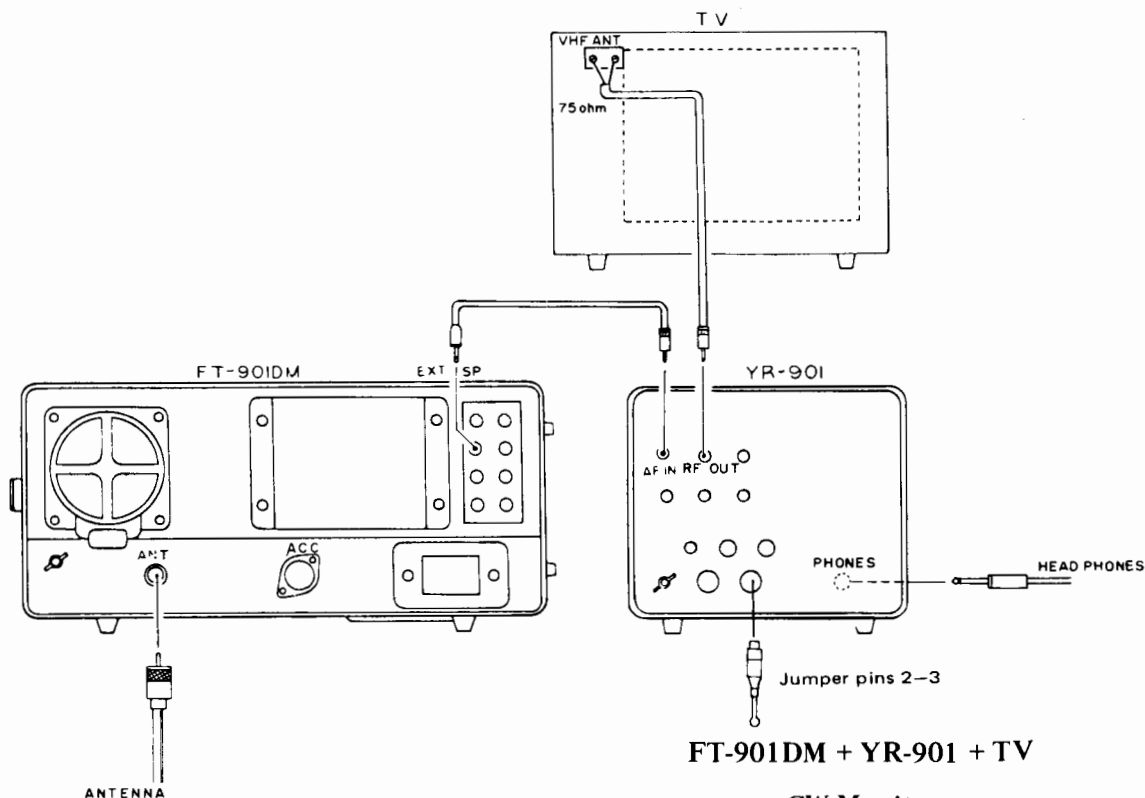
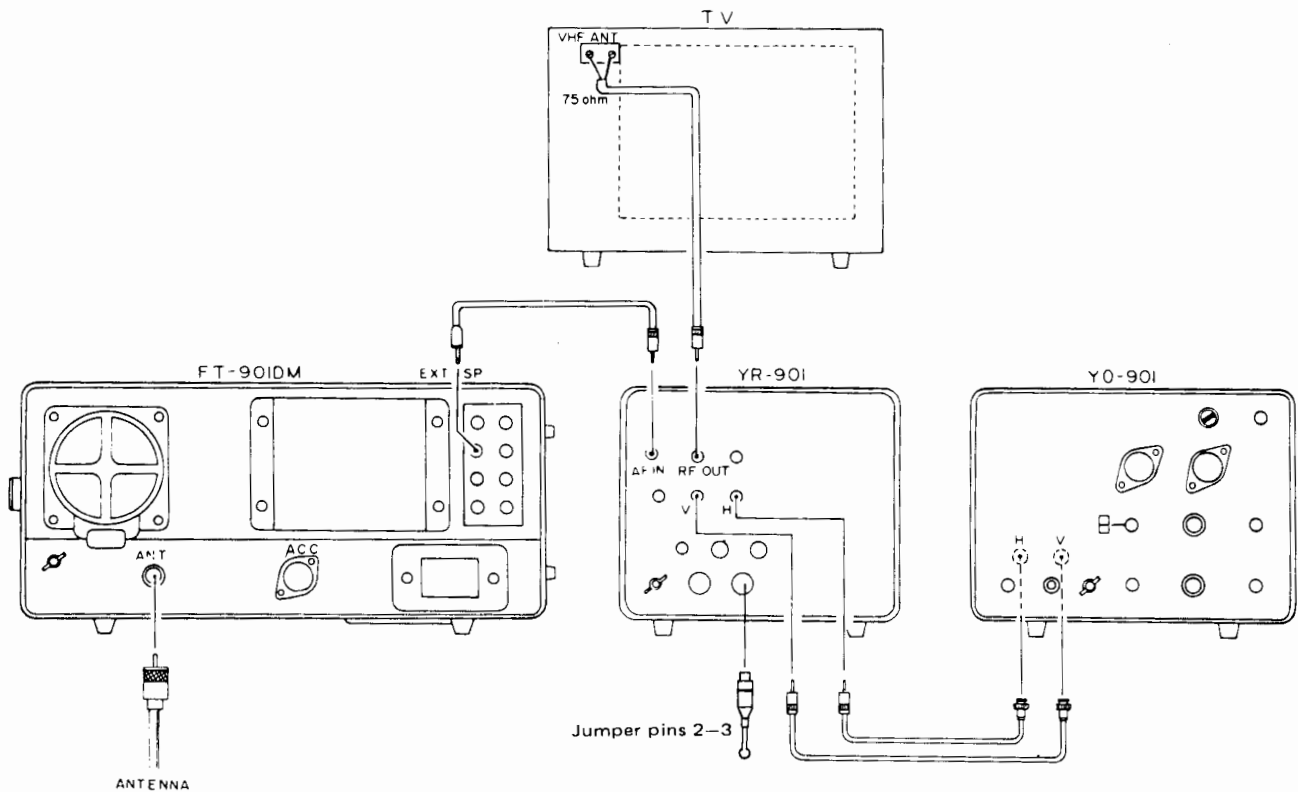

Fig.5
Fig.7
Connect the YR-901, the station receiver, and the TV monitor as shown in Figures 5 and 6. When using the video modulator to drive a home television, see page 18 for details on switching between channels 3 and 4 for output from the video modulator. The output impedance from the YR-901 RF OUT jack is 75 ohms, so a balun must be installed to provide a 75 ohm to 300 ohm unbalanced to balanced feed for those televisions using 300 ohm feed only. The video modulator is an available option. See your Yaesu dealer.
- (1) Set up the YR-901 and station equipment as shown in Figures 5 and 6. If it is desired to use a monitorscope such as the YO-901, Multi-scope for cross pattern monitoring of the RTTY signal, please refer to Figure 7 for interconnection details.
- (2) Preset the controls and switches as follows: